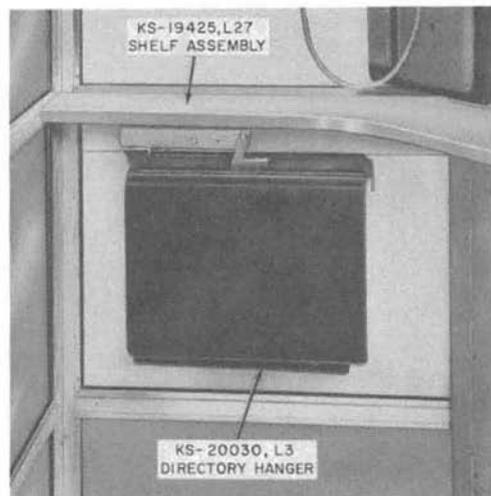

Fig. 10—KS-19425, List 27 Shelf Assembly with KS-20030, List 3 Directory Hanger
2.19 Refer to Fig. 10 through 12.
3.20 There are two shelf assemblies, a directory rack, a directory hanger and a directory shelf available for the booth. Install, when required, as follows (see Fig. 10 through 12):
- (a) *KS-19425, List 27 Shelf Assembly and KS-20030, List 3 Directory Hanger (Fig. 10).*